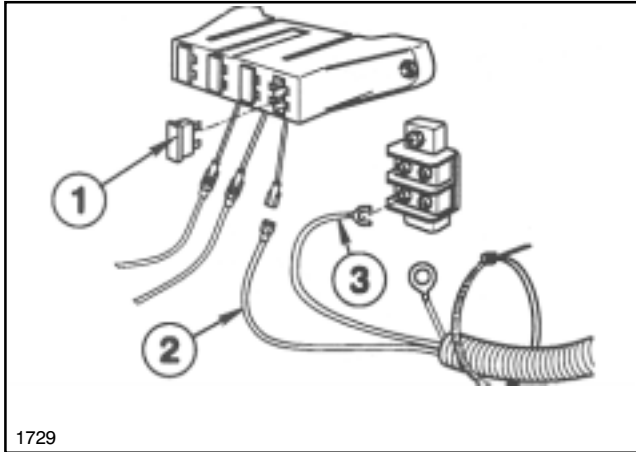

FIG. 3
10. Route Harness to Fuse Block under Operator Seat. Connect power and ground wires as shown in FIG. 3.